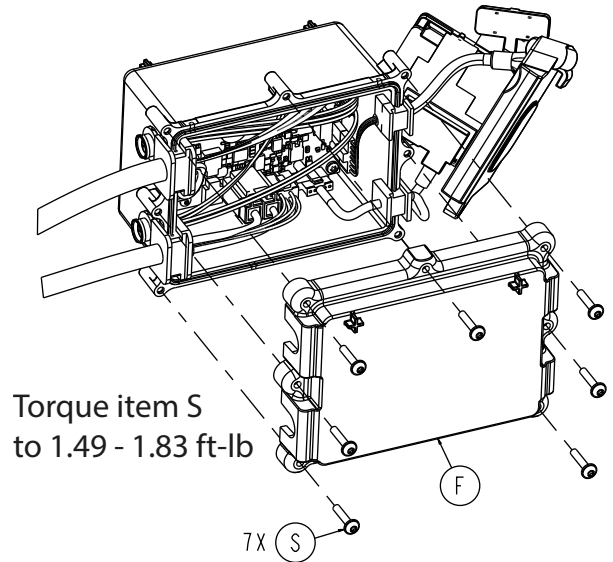

Figure 63 – Remove the HBC top cover screws
10. Using a T20 Torx driver, remove the seven round washer head tapping screws (S) that secure the top cover (F) to the HBC enclosure assembly (Figure 63). Remove and save the top cover. Save the screws.